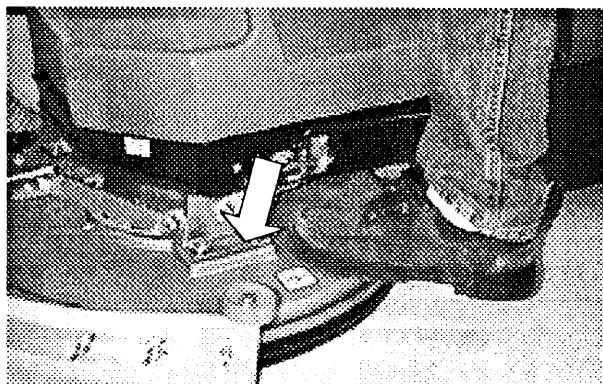

FIG. 7.
4. Slightly step down and release on the right front side of the pad shroud. Pad shroud will rise to pad installation position. (Figure 7)